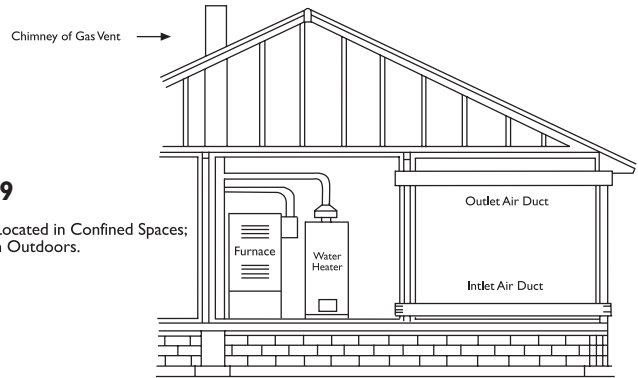

Figure 9
1. When communicating with the outdoors through horizontal ducts, each duct opening shall have a minimum free area of 1 square inch per 2,000 BTU per hour of total input rating of all equipment in the enclosure. (figure9)